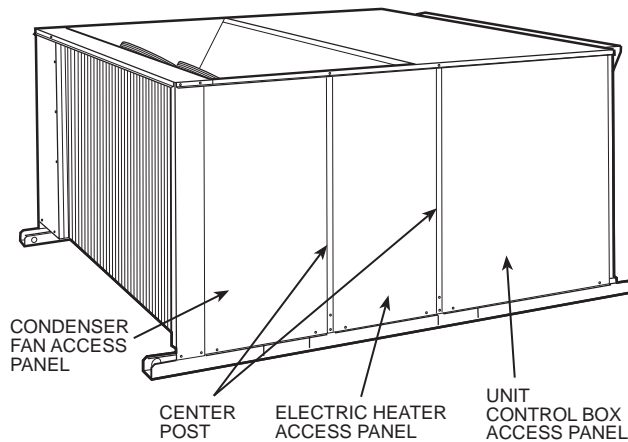
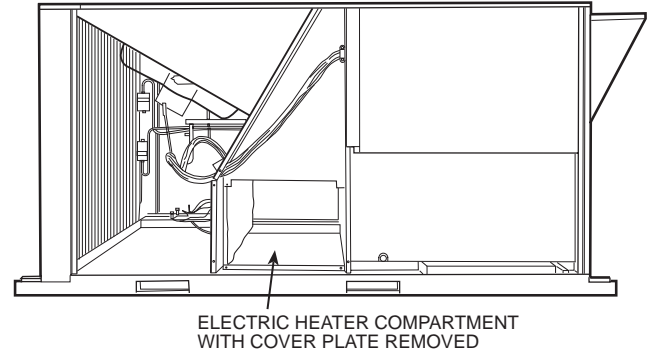

Fig. 2 — Base Unit Details
Fig. 3 — Base Unit with Access Panels and Heater Cover Plate Removed
1. On control box side of unit: remove the electric heater access panel, unit control box access panel, and condenser fan access panel (Fig. 2). Remove center posts and electric heater cover plate. See Fig. 3.